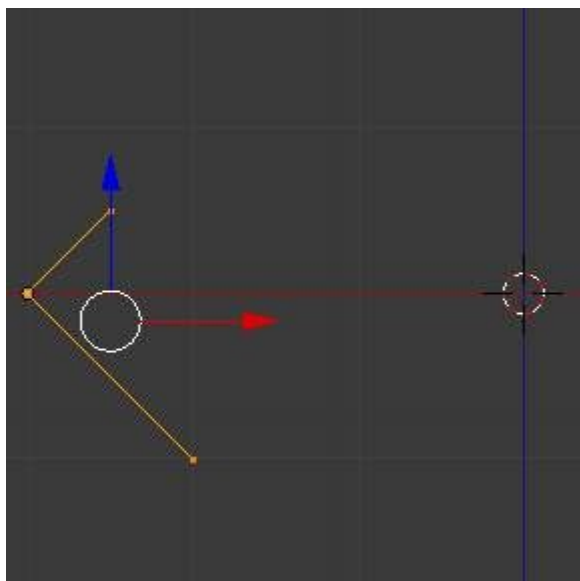

Fig. 18 - Profile With Starting Vector Angle
- Grab the upper vertex and move a bit to the left, but no more than you have moved your last vertex. (See Fig. 18 - Profile With Starting Vector Angle)